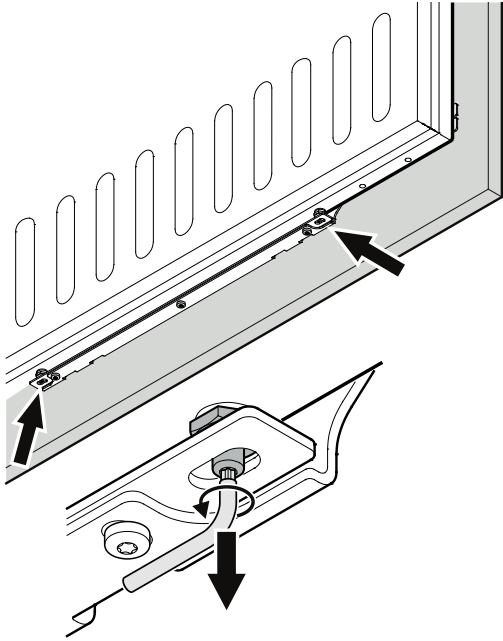

Figure 34
8. Turn the adjusting bolts (bottom refrigerator door) until they make contact with the attachment bracket (Figure 34).